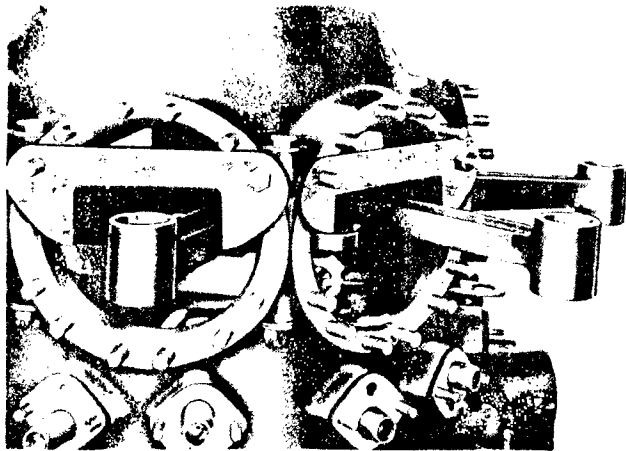

Figure 36 — Main Crankcase Assembly Showing Articulating Rod Protector Straps
- (6) Use pieces of hose, or make protectors of fiber, wood, or other soft substances to prevent all seven connecting rods from striking the crankcase (as shown in figure 36).